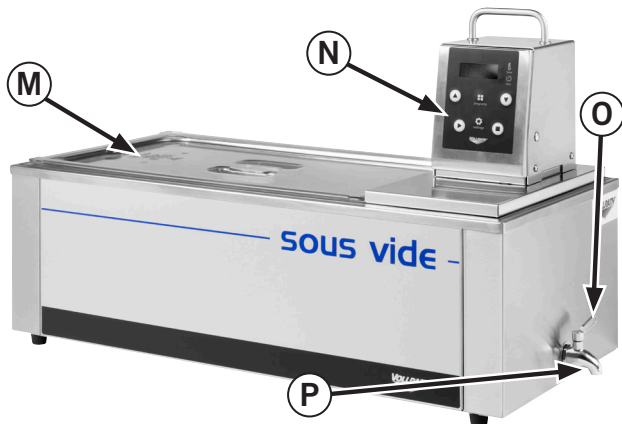

Figure 3. Cover, Drain, and Drain Lever (Shown in the "Open" position).
- If using the 60039 model with bath and drain, place a suitable container directly under the drain valve (P) — see Figure 3. Open the Drain Valve, then close the valve before the container is too full. Empty the drained water and repeat as needed until the well is empty.